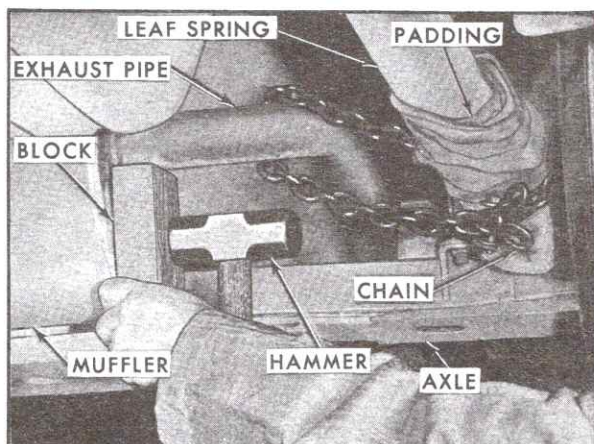

Fig. 8-10 Muffler Removal (693)
7. Secure right exhaust pipe to leaf spring in such a manner that system cannot shift to the left, Fig. 8-10.